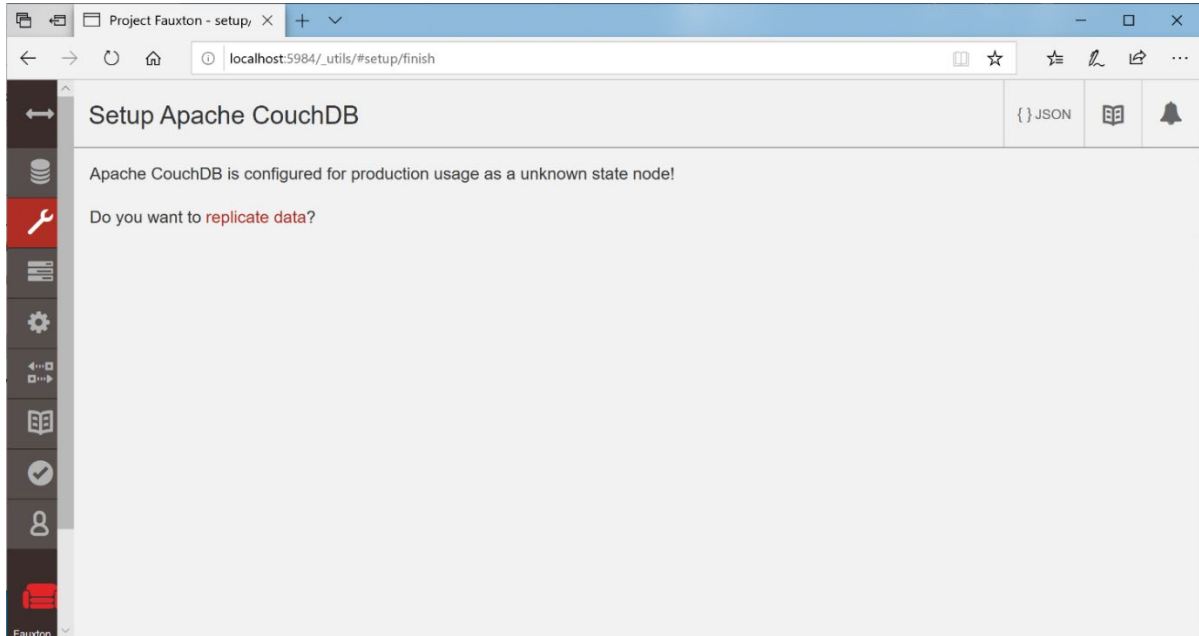

Figure 3-6 Replicate Data (No need to replicate)
- g. You are now ready in the database to receive data. Congratulations! There is no need to replicate data (see Figure 3-6).